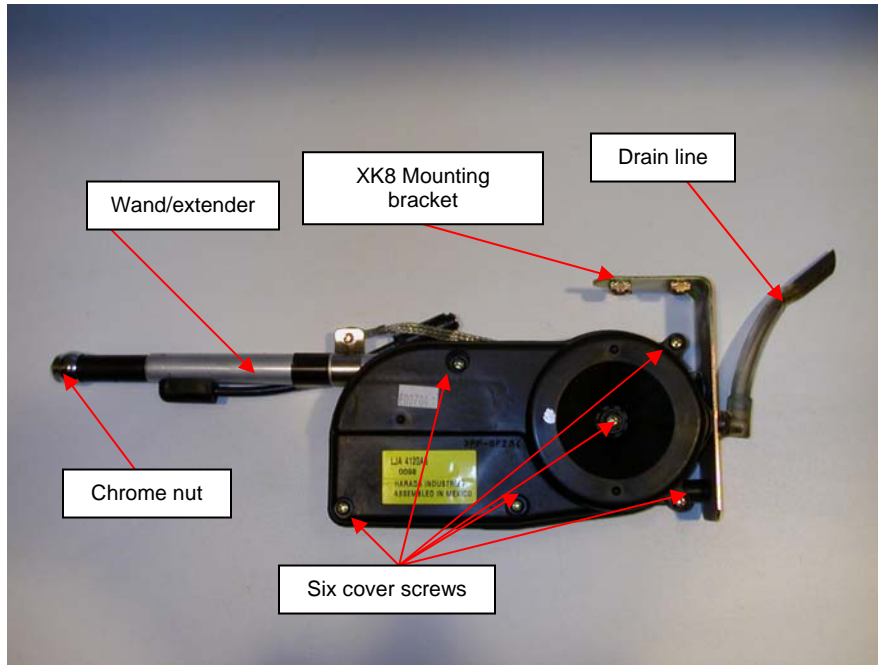

Fig. 5
5. Both from here on: lower the antenna to pull the extension/nut from grommet in the fender. It is not necessary, or even desirable, at this point to remove the chrome nut. Tilt the antenna and pull it upward to extract the drain line from the grommet in the frame. Place the antenna on your work bench (Fig. 5). Remove the six cover retaining screws. Nothing should “jump out” when you do this.